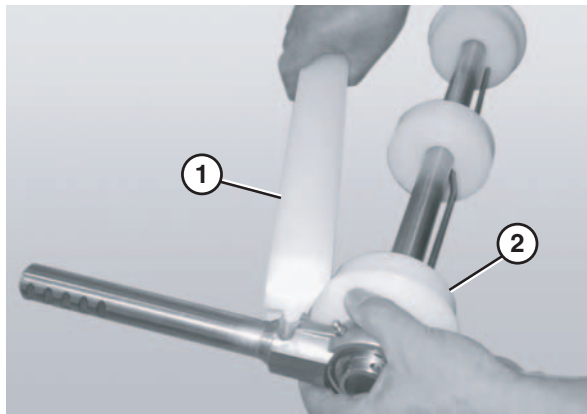

Figure 78
3. Attach the flanged pucks (**Figure 78, item 2**) and bearing shaft assemblies to the idler shaft.
4. Attach the guard bar (**Figure 78, item 1**).